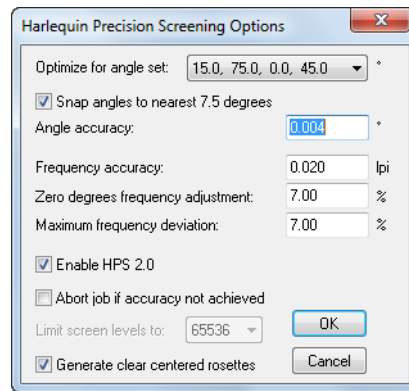

Figure 6.6 Harlequin Precision Screening Options dialog box
- When using HPS, the RIP produces the number of gray levels required to attain the specified accuracy of screening, as set in the HPS Options dialog box, shown in Figure 6.6, page 186.